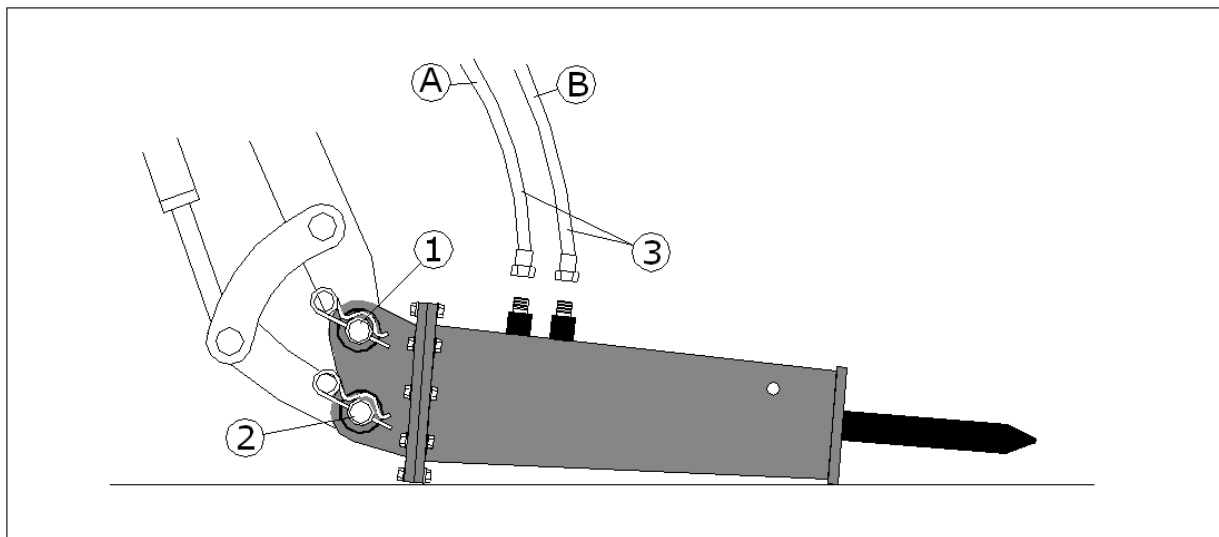

FIG. 8
1. Position the hammer as shown in figure 8. Lower the arm of the operating machine slowly until the hole on the arm coincides with the hole on the hammer support (1, fig.8), insert the fixing bolt and tighten it by using the wrenches supplied in the kit.
2. Displace the connecting rod of the operating machine arm to align the holes of the connecting rod and the hammer support (2, fig.8). Then insert and tighten the second bolt.
- Delivery fitting 1/2" (A, fig. 8) - Discharge fitting 3/4" (B, fig. 8).
- Delivery quick fitting 3/4" (A, fig. 8) - Discharge quick fitting 1" (B, fig. 8).